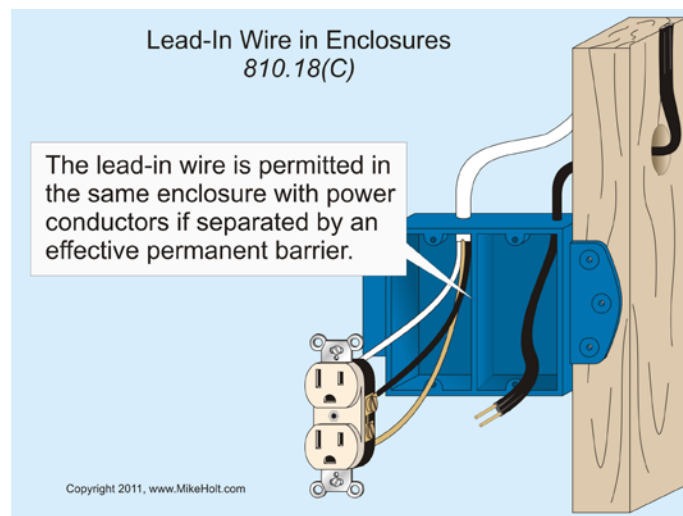

Figure 810-9
(C) Enclosures. Indoor antenna lead-in conductors can be in the same enclosure with electric power conductors where separated by an effective, permanently installed barrier. **Figure 810-9**